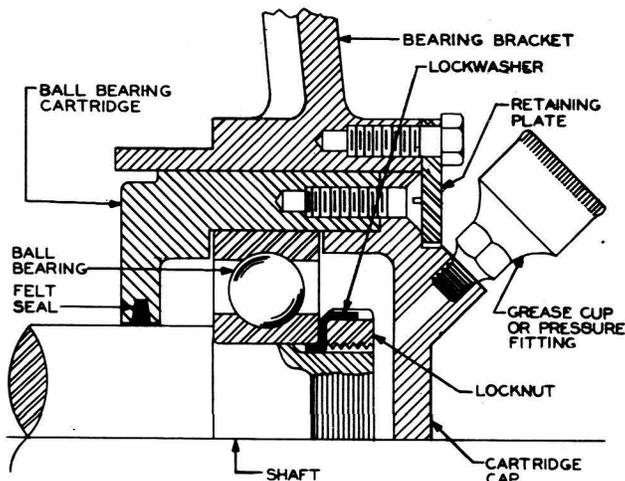
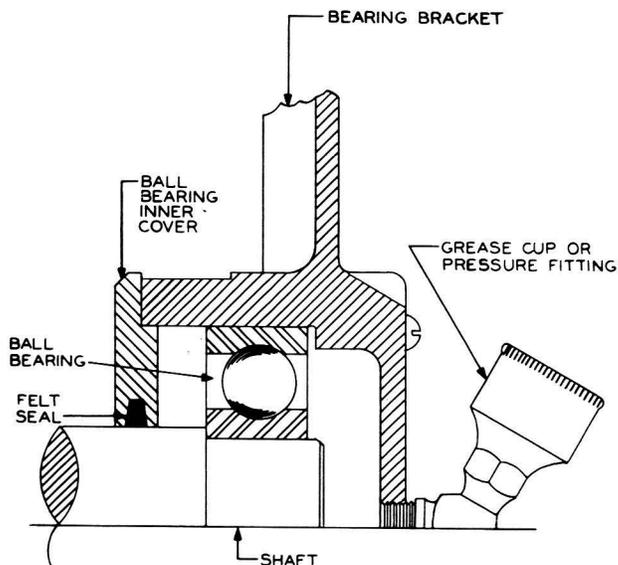

Fig. 7 - Ball Bearing
Fig. 8 - Ball Bearing
To replace the brush holder, remove the brush as outlined in 3.05. Disconnect all leads necessary to free the bearing bracket and rocker ring assembly from the frame. Wrap the commutator with heavy paper to prevent scratches. Support the armature by means of wooden wedges inserted between the armature and the field pole face or by other means so as to support the armature when the bearing bracket is removed. Mark the bearing bracket and frame to insure proper replacement. Remove the speed regulator, if present, as outlined in 3.20. If the motor or generator has a retaining plate, as shown in Fig. 7, remove it. If the motor does not have a retaining plate (Fig. 8), remove the screws which secure the inner bearing cover to the bearing bracket. Remove the cap screws which hold the bearing bracket to the frame. Remove the bearing bracket and rocker ring assembly as a unit being careful not to damage the commutator. Loosen the brush holder set-screw and slide the holder off the brush holder stem. Slip the new complete holder on the stem and reassemble in the reverse order. Adjust brush holder spacing in accordance with Section 155-612-701. Clean and lubricate the bearing housing and lubricate the bearing, if required, in accordance with Section 155-612-701.
Ball Bearings**3.09 Generator End: Fig. 7**
**3.10 Generator End and DC Motor End: Fig. 8**
(1) Ball Bearing: Fig. 7 - To replace a ball bearing, proceed as outlined in 3.09; except for parts not common to the ac motor end such as brushes, brush holders, and leads.
(2) Ball Bearings: Fig. 8 - To replace a ball bearing, proceed as outlined in 3.10, except for parts not common to the ac motor end such as brushes, brush holders, and leads.
3.16 To replace the armature in this type of set, mark and remove the brushes and connecting leads as outlined in 3.05. Remove the speed regulator, if present, as outlined in 3.20. Wrap commutator with a protective cover of heavy paper. If the set has retaining plates, as shown in Fig. 7, remove them from both ends of the set. If the set does not have retaining plates (Fig. 8), remove the screws which secure the inner bearing covers to the bearing brackets at both ends of the set. Mark and disconnect the leads between the motor and generator and disconnect the conduit. Remove the expanded metal cover over the opening between the frames. Place a block under the generator frame close to the split between the frames. This will support the generator frame when the motor frame is removed. Unbolt the motor frame from the generator frame. Remove the motor frame and bearing bracket as a unit. The fan and the motor half of the armature will be exposed. Support the armature as required by using a rope sling looped around the shaft, about in the center, near the fan. With the rope sling in place around the armature shaft, counterbalance the armature and pull it out of the generator frame. Care should be taken not to damage coils. When desirable, use may be made of a chain hoist or block and tackle for removing the motor frame. After removal, the armature should always be placed with the shaft resting on grooved blocks to hold the armature and commutator